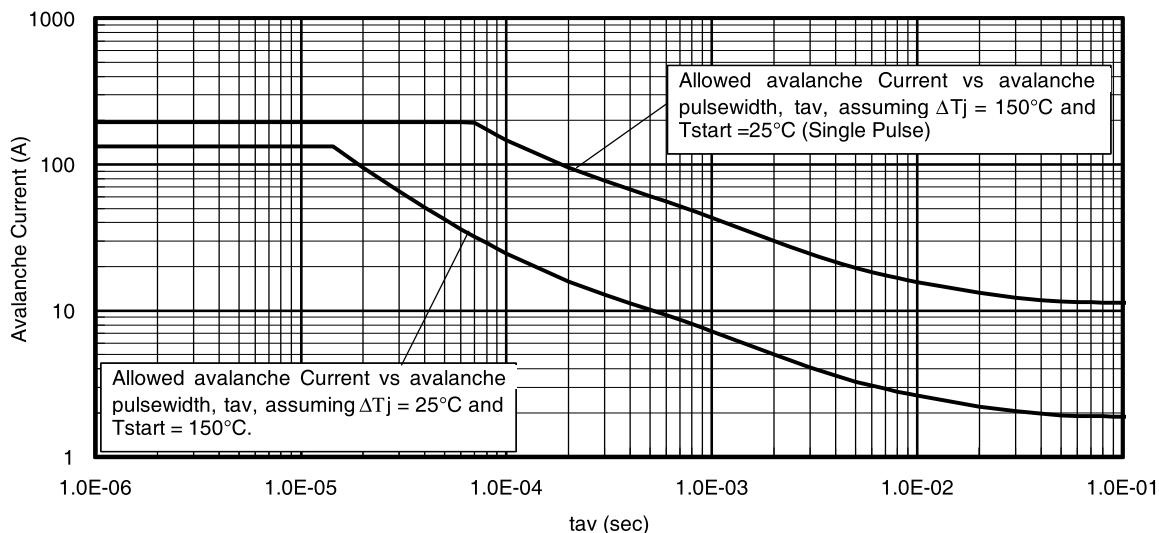

Fig 14. Typical Avalanche Current vs.Pulsewidth
Notes on Repetitive Avalanche Curves , Figures 14, 15: (For further info, see AN-1005 at www.irf.com)
7. ΔT = Allowable rise in junction temperature, not to exceed T_{jmax} (assumed as 25°C in Figure 14, 15).